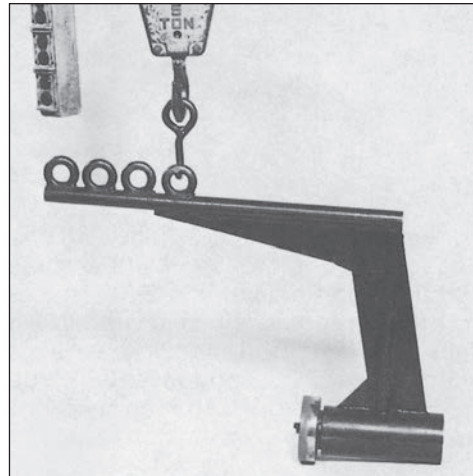

Figure 10-5
**Rotor Lifting Fixture** (figure 10-5) – The main generator rotor is heavy (approx. 1/2 the weight of the generator) and difficult to handle. The proper fixture should be used whenever removing or installing the main rotor into the main stator. Without proper care and equipment, the windings can be easily damaged.